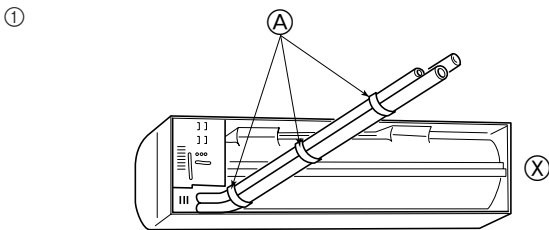
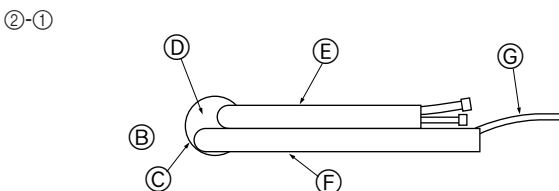

Fig. 3-4
Fig. 3-5
- ① Rear, right and lower piping (Fig. 3-4)
- ② Left and left rear piping
- ②-① For left rear piping, pull the pipes out the hole to determine their correct length, then bend them. The indoor unit should hang on the wall mounting fixture. (Fig. 3-5)